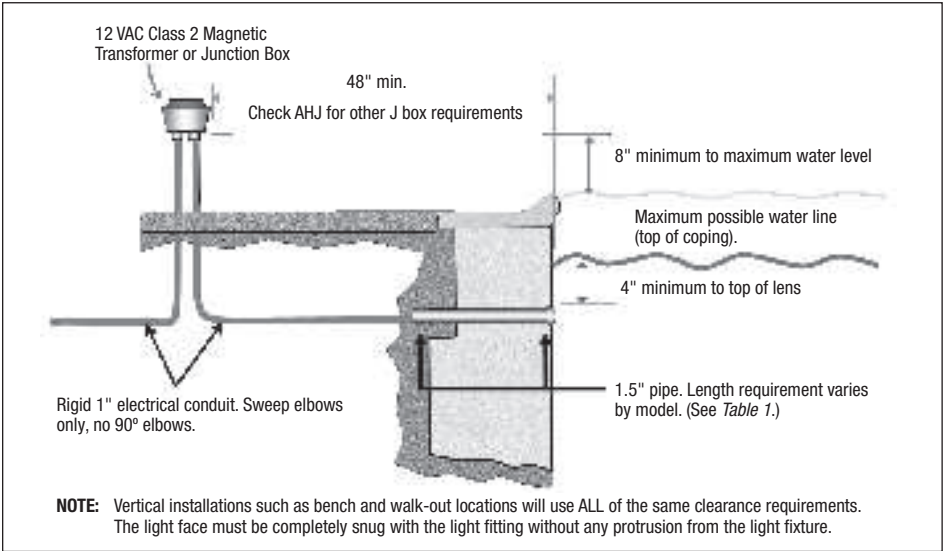

Figure 1. Jandy LED Light Installation with Standard 1.5" Plastic Fitting
NOTE: The electrician must complete preparatory steps before light fixture is installed. See *Figure 1*.
1. The junction box or the low-voltage magnetic transformer must be located at least eight (8) inches (measured from the inside of the bottom of the junction box or transformer) above the **MAXIMUM** water level, **OR** at least four (4) inches above the ground level or pool deck, whichever is greater. The junction box or 12VAC magnetic transformer must also be installed at least forty-eight (48) inches (4 ft.) from the edge of the pool, or per the junction box and/or transformer manufacturer's instructions. See *Figure 1*.
3. A standard 1.5" plastic wall / return fitting (not included) must be installed so that the top edge of the underwater light's lens is at least 4 inches (10.2 cm) below the surface of the water in the pool. See *Figure 1*.